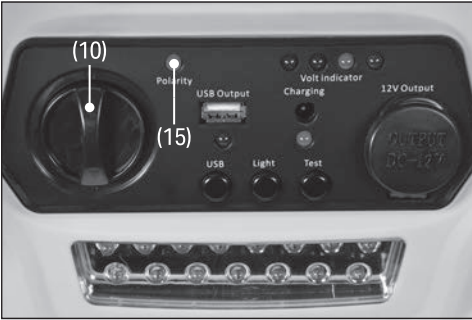

Fig. 4
6. Turn the jump-start lead isolator to the on (I) position **ONLY** when instructed to supply power in the vehicle manufacturer manual (Fig. 4).